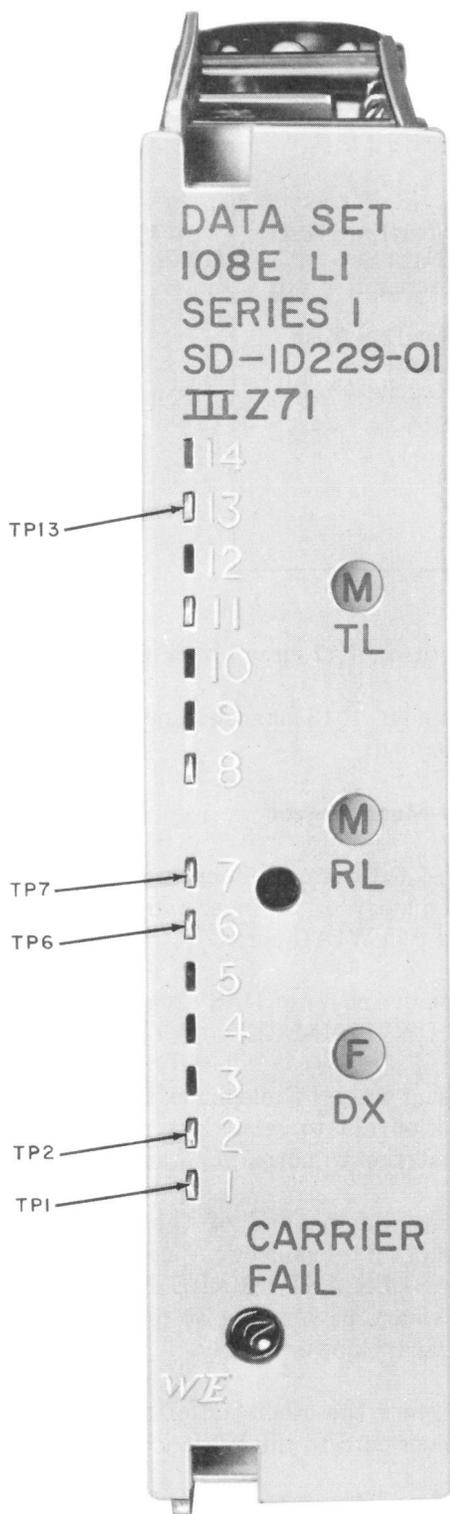

Fig. 1—Data Set Test Points
- (1) Remove power from DAS 820D.
- (2) Remove plastic housing of DAS 820D-L1 or gain access to DAS 820D-L1A.
- (3) Operate 1013 handset TALK MON switch to MON.
- (4) Connect leads of 1013 handset to data set TP1 and TP2 for 2-wire line facilities or TP6 and TP13 for 4-wire line facilities (see Fig. 1).
- (5) Monitor for incoming carrier F1 (data set 108E) or F2 (data set 108D).
- (6) Remove 1013 handset, replace cover, if supplied, and restore power to the DAS.